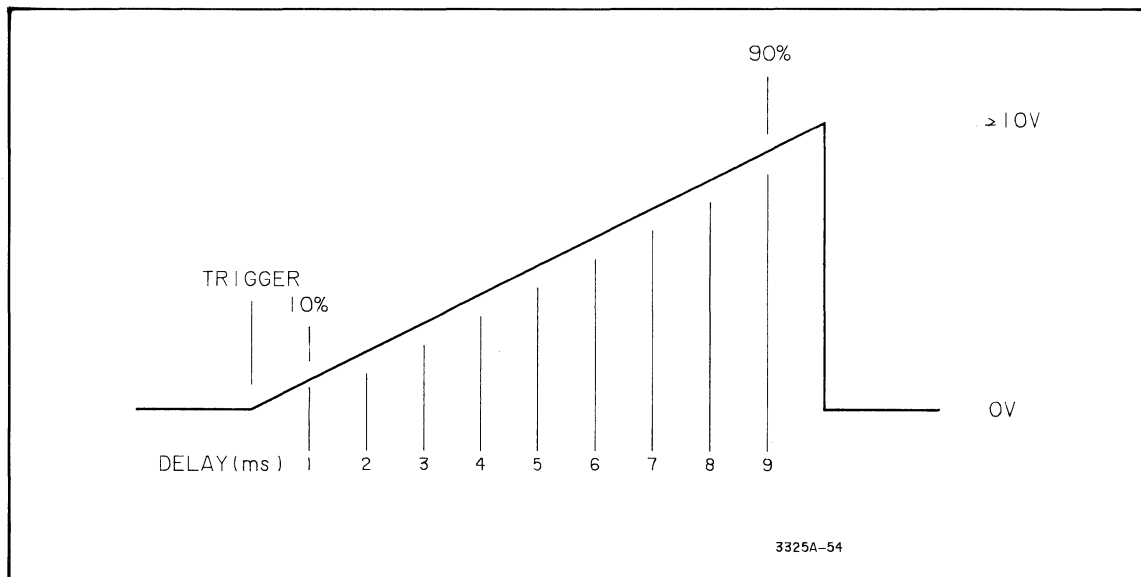

Figure 4-14. X Drive Linearity Test.
e. Set the digital voltmeter delay to .001 (seconds). Adjust the dc power supply for a digital voltmeter reading of -1.600 V. Record the digital voltmeter reading on the Performance Test Record under "X Drive Ramp Measurement, (10%), y_1 ." This is the 10% point on the X Drive ramp. See Figure 4-14.